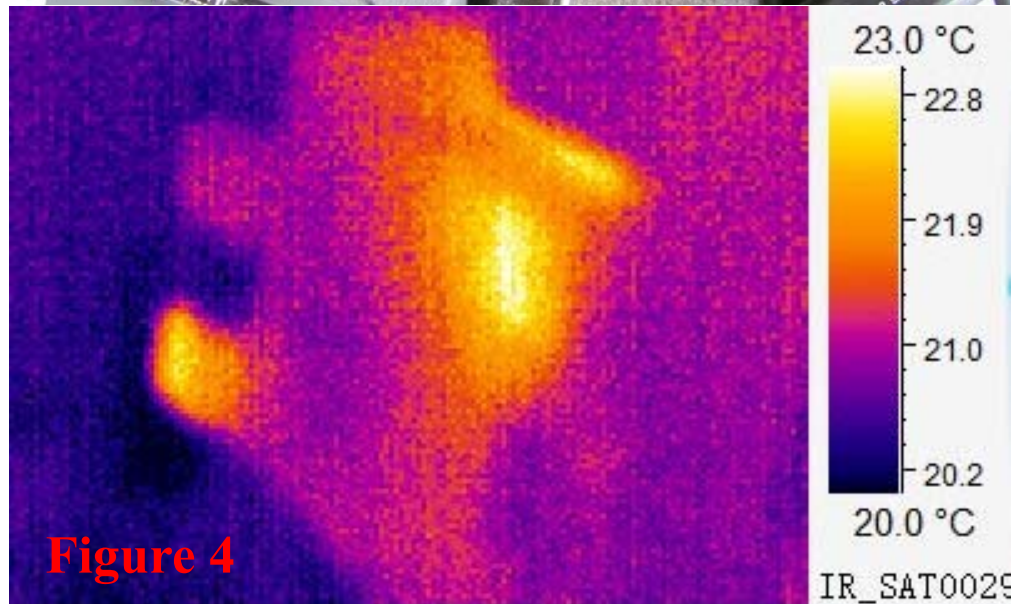

Figure 4
dash where we hit pay dirt. When we pulled fuse 7 the current draw dropped down to a normal level assuring us that we found the problem. When we looked at the wiring diagram in MotoLogic we noticed that fuse 7 had everything from power mirrors to the immobilizer, numbering over a dozen culprits that can be causing the battery drain. Now it was time to take out the artillery, our General Thermal Imager that would save us time going through the vehicle and unplugging each load. The thermal imager led us to the right rear side sliding door motor assembly (Figure 1) and the right rear body panel (Figure 2) that we removed. At first we thought that the problem was just the right sliding motor and latch assembly but even with both disconnected we still had a current draw of 0.146 (Figure 3). Since there was still a good size draw on the battery we performed another scan with our General Thermal Imager that located the last draw. Take a look at the thermal image of the (Figure 4) right side
-mation is displayed on the odometer. 7. Release the button, 8. Depress and hold the “ODO/TRIP” button until the odometer display confirms that reset has begun (odometer reads “1”), 9. Once reset is complete, the odometer returns to normal, 10. Release the button, 11. Turn off the ignition and the procedure is complete. With that DTC out of the way it was now time to turn our attention to the P0420 DTC. We performed a catalyst efficiency test that passed at both 1196 or idle (Figure 2), and 1492 rpms (Figure 3) but at 2242 rpms (Figure 4) it failed the test. If you are wondering why it failed at 2242 rpms but pass at idle and 1475 rpms you can find the answer in the Freeze Frame data. Take notice that the LTFT was at 13% and the engine rpms were at 2028 when the DTC for P0420 was set. Never clear or erase Freeze Frame data since it hold a great deal of information that can be helpful. Erasing Freeze Frame is like pouring Clorox on a crime scene removing all the evidence that would be helpful in solving where, when and why the DTC was set.